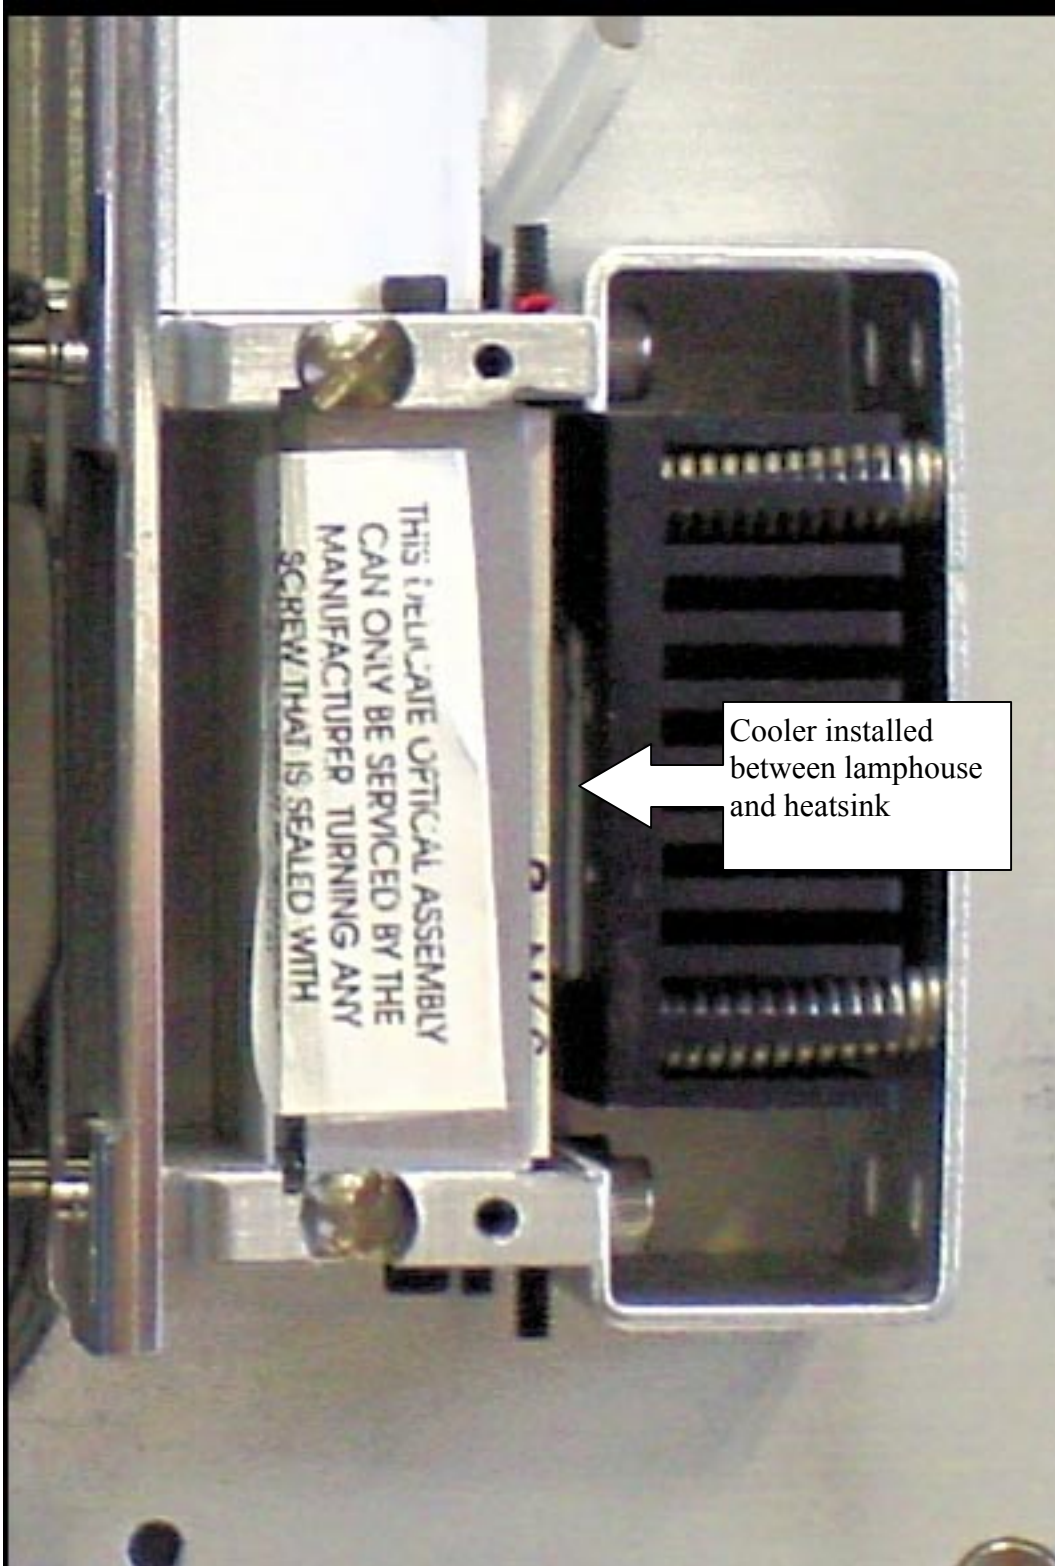

Figure 1
- 5. Inspect the lamphouse and heatsink. See figure 1, if the heatsink is mounted directly on the back of the lamphouse (no space between the lamphouse and heatsink) then there is no cooler installed. [STOP] reassemble the scanner. No action is necessary.**